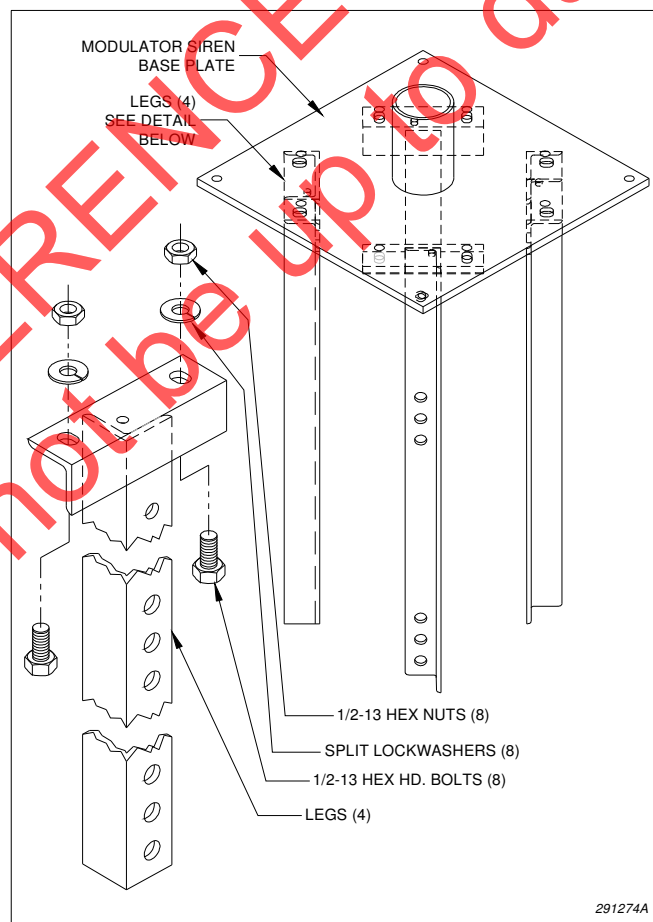
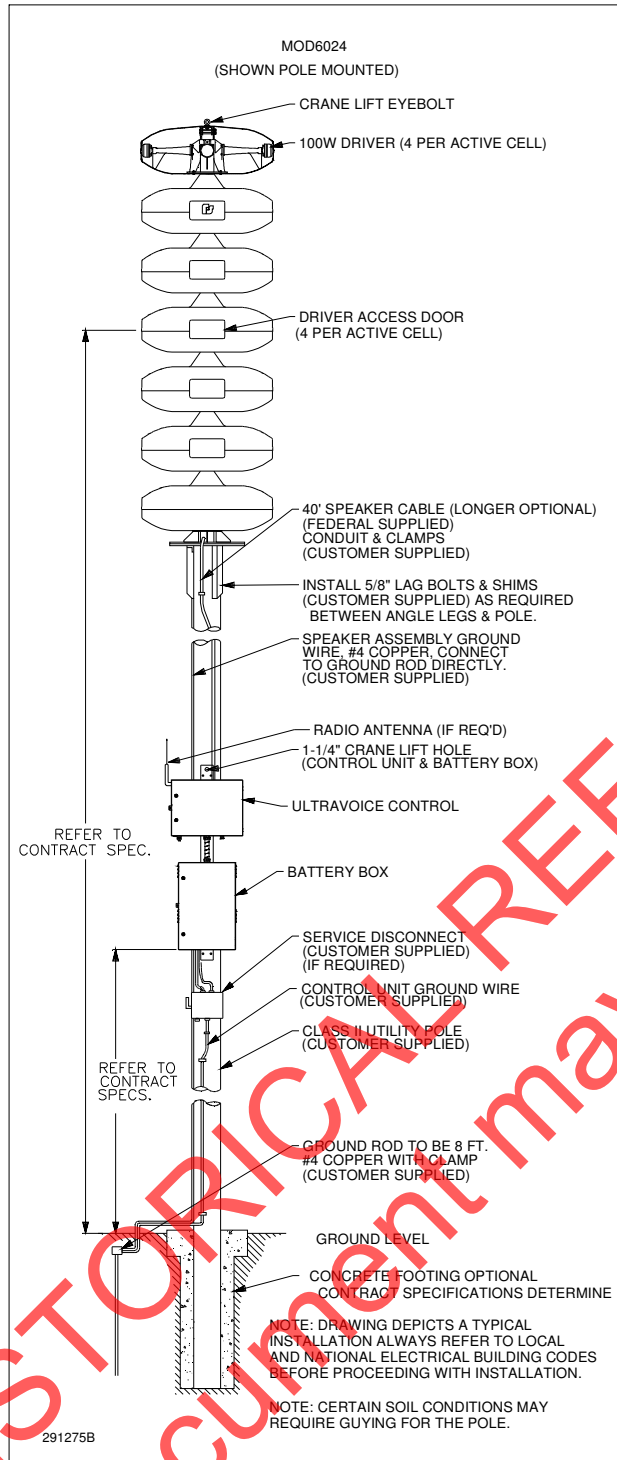

Figure 3-1. Siren Leg Assembly
Figure 3-2. Typical Wooden Pole-mounted Installation
A typical wooden pole-mounted siren installation is shown in Figure 3-2. The siren is mounted on a Class 2 utility pole (ANSI type wooden pole or equivalent) with a minimum horizontal ground stress rating of 3,700 pounds (1682 kg). Insure that soil loads will conform to this size utility pole. It is attached to the pole by means of legs, as shown in Figure 3-1.
2. Install the four legs on the siren mounting plate, as shown in Figure 3-1. Use two stainless steel 1/2" bolts, nuts and lock washers (provided) for each leg. All mounting hardware needed is supplied in the hardware kit shipped with this manual. Do not tighten the bolts completely.